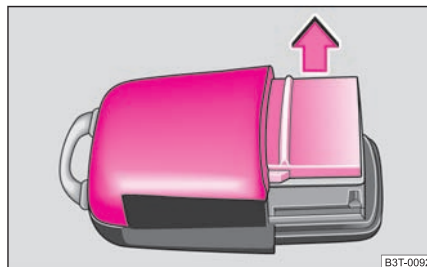

Fig. 24 Cover of the transmitter housing
- Take off the cover of the transmitter housing ⇒ page 36, fig. 24 in direction of arrow.